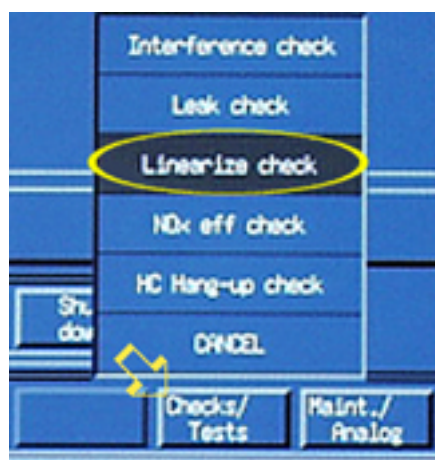

Figure 4
- 111 At the bottom of the screen, click on the “Checks/Tests” button. See the arrow in Figure 4.
From the menu items that appear, click on “Linearize Check” See the circle in Figure 4.